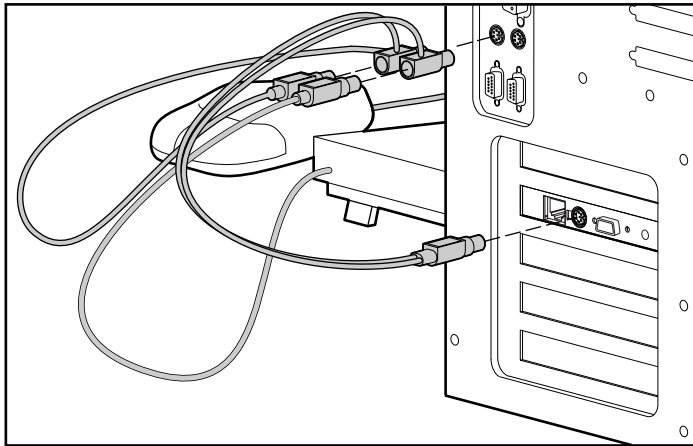

Figure 2-3. Connecting the keyboard/mouse adapter cable
2. Use the keyboard/mouse adapter cable provided in the Remote Insight Lights-Out Edition option kit to connect the keyboard and mouse, as shown in Figure 2-3.